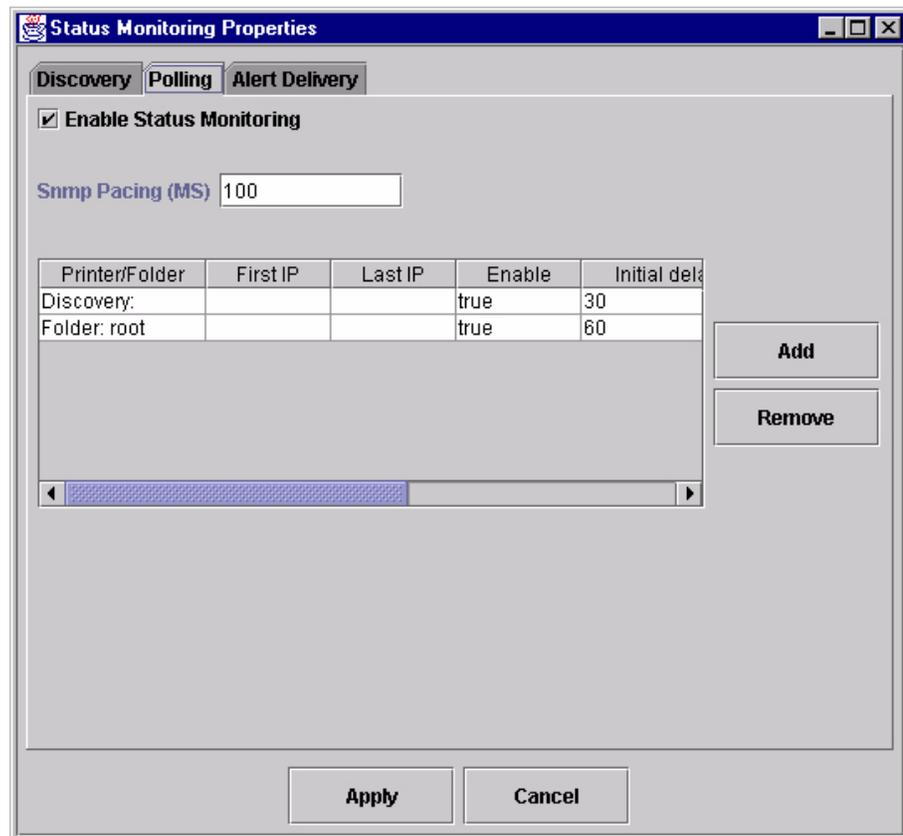

Figure 21. Status Monitoring Properties: Polling Tab
To enable the option, check the **Enable Status Monitoring** check box in the Polling tab (see Figure 21). The Snmp Pacing (MS) value places a delay between each snmp request. This feature minimizes the network load. By default, the value is set at 100 milliseconds (.1 second).